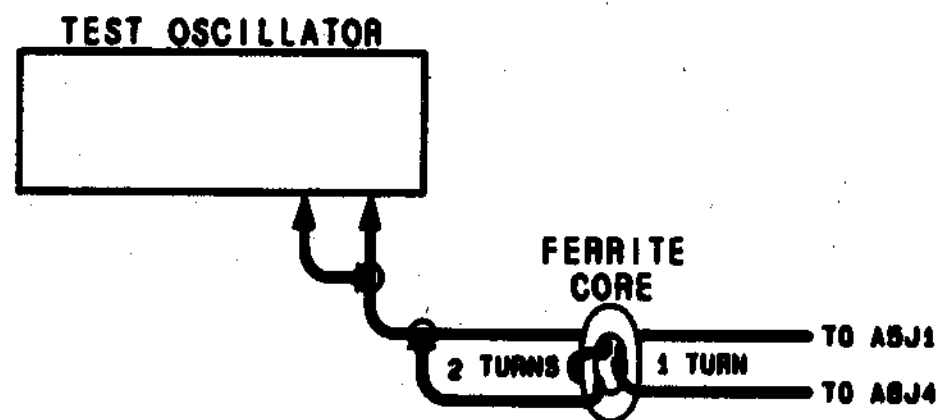

Figure 5-5. Ferrite Coupling Transformer Circuit
16. Set the test oscillator to a 100 kHz sine wave and connect it to A5J1 via the ferrite transformer shown in Figure 5-5.